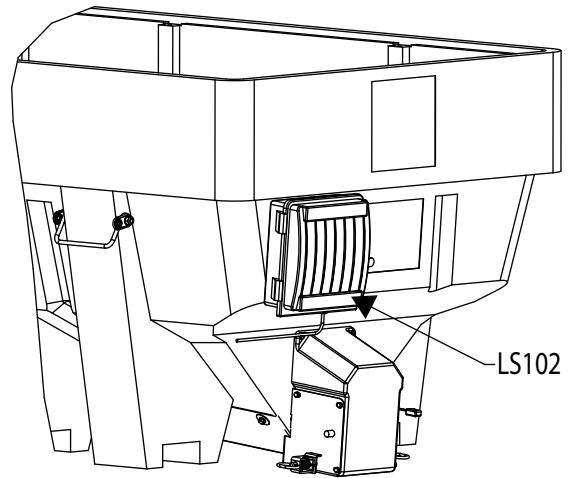

Fig. 4
- 4.** Position and attach enclosure LS102 as shown in Fig.4.